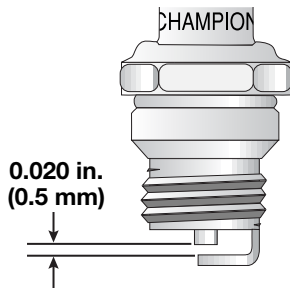

Fig. 28
3. Replace a cracked, fouled or dirty spark plug. Set the air gap at **0.020 in. (0.5 mm)** using a feeler gauge (Fig. 28).